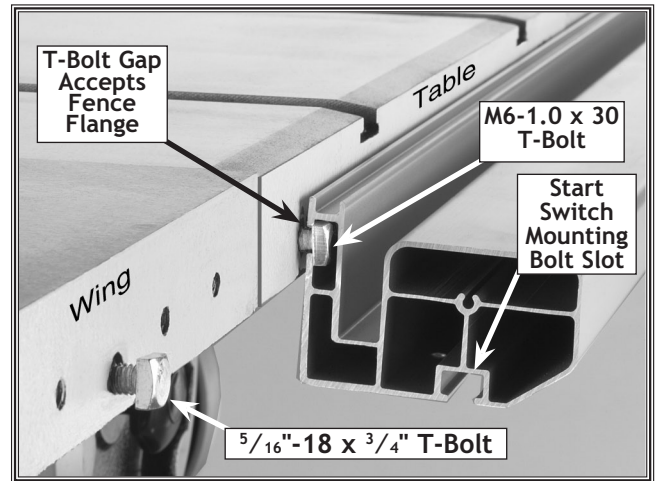

Figure 8. Front rail being slid onto T-bolts.
2. In the front and back edge of the table, insert eight M6-1.0 x 30 T-bolts (four on each side) through the larger threaded holes, and install the flat washers and nuts on each bolt. See Figure 8.
3. Insert two $\frac{5}{16}$ "-18 x $\frac{3}{4}$ " T-bolts in the right table wing, and two into the edge of the left table wing, and install the flat washers and nuts on each bolt. See **Figure 8**.
9. Insert two $\frac{5}{16}$ "-18 x $\frac{3}{4}$ " T-bolts into the start switch mounting slot (see **Figure 8**), and position the start switch mounting bracket to the underside of the rail, and secure it with the washers and nuts.